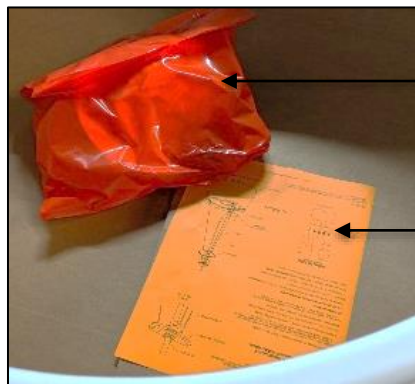

FIG.3 - RED BAG AND INSTALLATION INSTRUCTION MANUAL
2. INSTALLATION INSTRUCTION MANUAL (shown in FIG. 3) - Please completely read the install instructions before starting installation.
3. RED BAG (shown in FIG. 3)